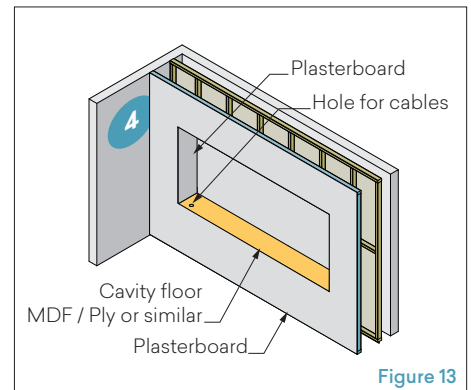

Figure 13
**4.** Finish the wall off using plasterboard or timber board on the wall panels and timber board on the cavity floor. (Figure 13)